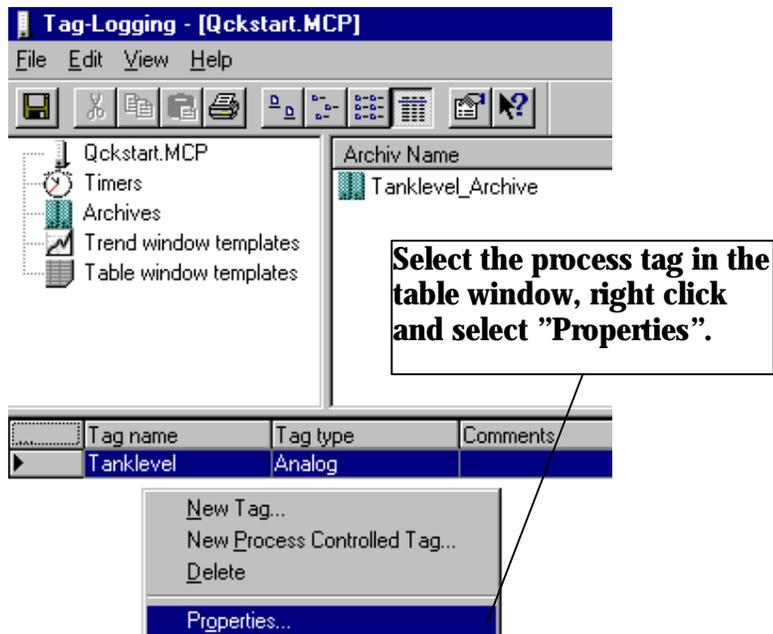

Figure 3.5 WinCC Project "QckStart"; Access to Process Tag Properties
5. To set the properties of the archive, select the process tag in the table window, right click and select "Properties". See Figure 3.5.